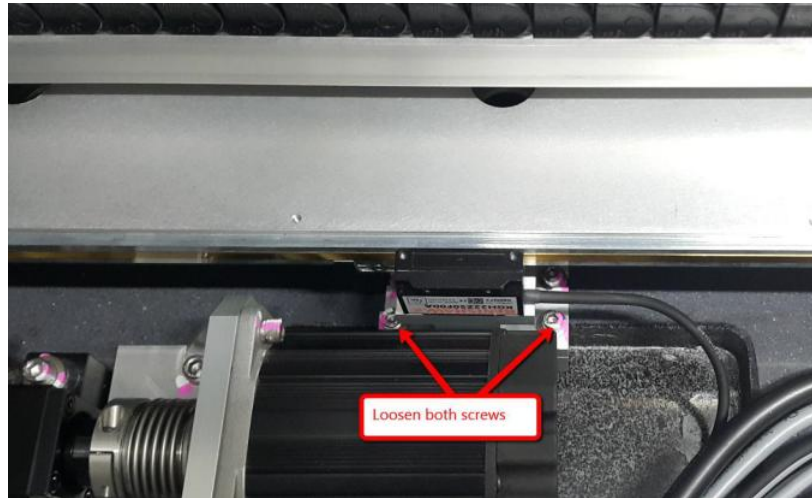

Figure 27 X-axis Read Head
22. Loosen 2 x screws which shown in the Figure 27